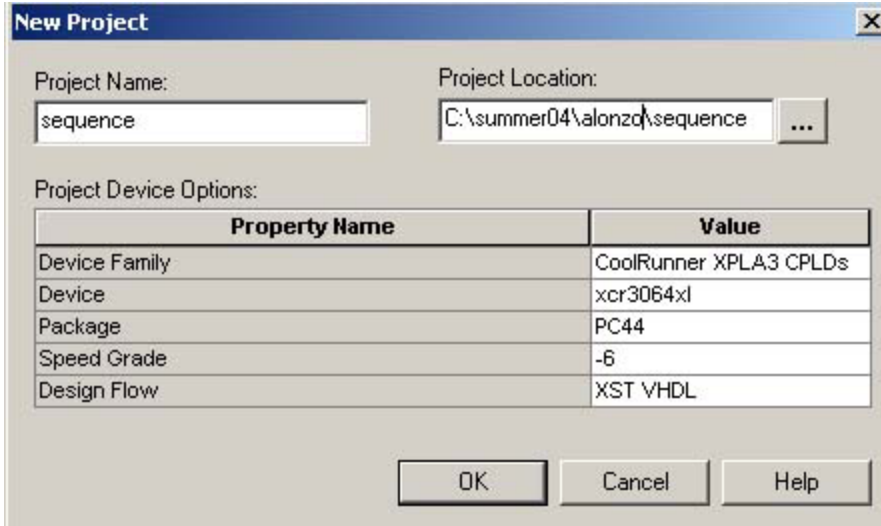

Figure 3; Creation of a project. The format for **Project Location** must be "C:\summer04\student_name\"
2. Create the sequence_detector project; In the Project Navigator, select **File** → **New Project** and setup options as in figure 3.